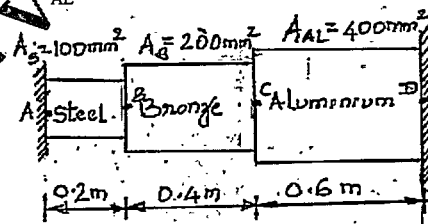

Fig. Q4 (b)
b. A stepped bar with its both ends fixed as shown in Fig. Q4 (b) is subjected to an increase in temperature of 50 °C. Determine displacements and forces at points A, B, C and D. Take Young's moduli of steel, bronze, and aluminium as $E_s = 200$ GPa, $E_B = 83$ GPa, and $E_{AL} = 70$ GPa respectively. The coefficients of thermal expansions are $\alpha_s = 12 \times 10^{-6} / ^\circ C$, $\alpha_B = 19 \times 10^{-6} / ^\circ C$ and $\alpha_{AL} = 22 \times 10^{-6} / ^\circ C$. (14 Marks)